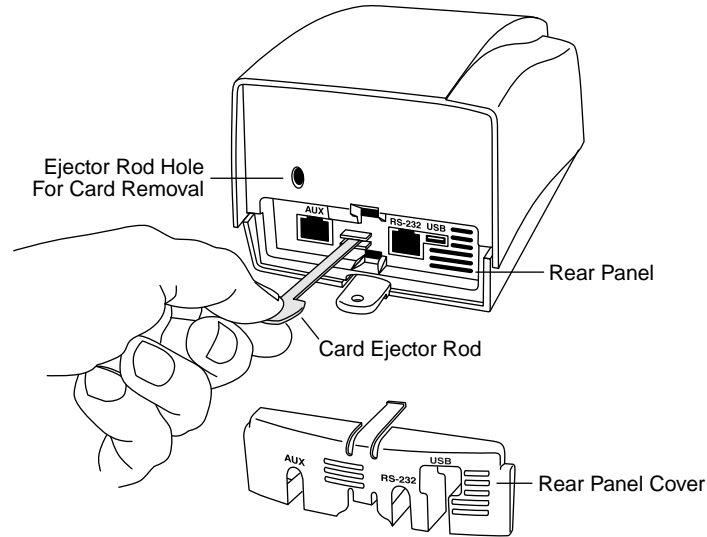

Figure 3-2. Ejector Rod Removal from Storage
1. Remove the Rear Panel Cover to access the Ejector Rod as indicated in Figure 3-2.
2. Look into the Hole for Card Removal in the back of the unit, shown in Figure 3-2, to see the jammed card. This will indicate the approximate position where the notch on the Ejector Rod will be positioned with respect to the card.